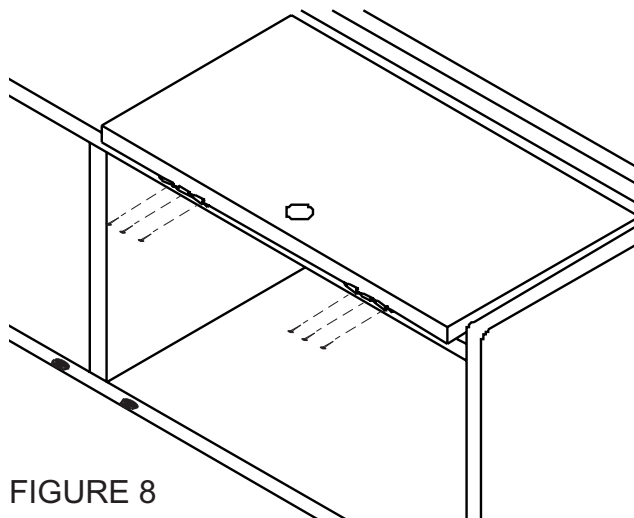

FIGURE 8
16. Turn over door and position it onto the top of the overhead storage unit. Align slider hinge to predrilled holes in top shelf and insert (3) #10 x 5/8" screws per hinge. **DO NOT** tightens screws in this step. (Figure 8)
17. Center door to opening and tighten screws on slider hinges. (Figure 8)